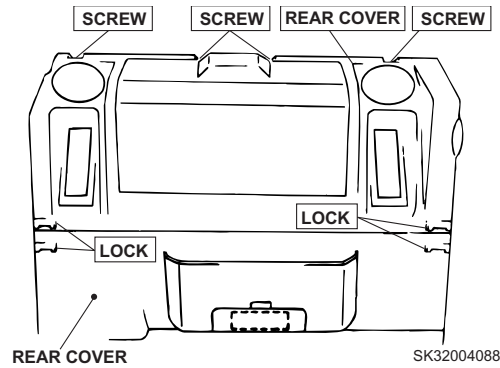
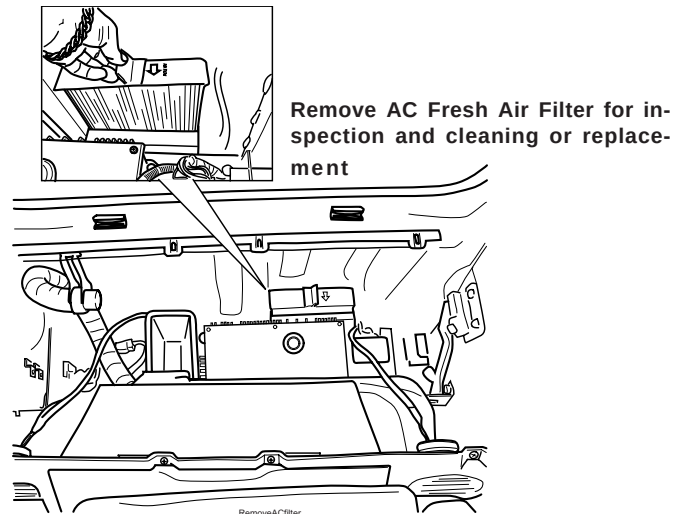

FIGURE 4.39A
FIGURE 4.39B
- Release the 4 top screws from the rear panel top cover (behind the operator's seat), see Figure 4.39A, and press the lower locks to release cover and remove it. Tilt the cover towards the seat to obtain access to the fresh filter. See Figure 4.39B.
- Remove the fresh air filter for inspection and cleaning, or replacement. See Figure 4.39B.
- Press the locks on the lower cover to release it and remove it to obtain access to the recirculate air filter. See Figure 4.39A.